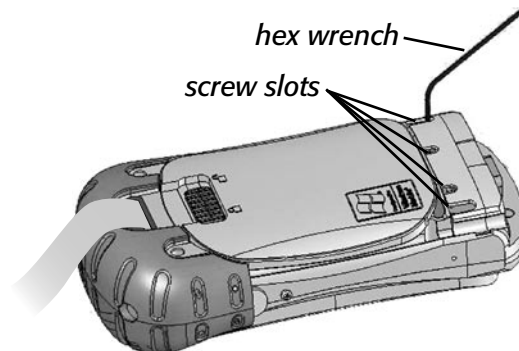

Figure 2: Placement of the hex wrench when first loosening screws
6. Place the short end of the hex wrench onto a screw in one of the four screw slots just below the battery door (see Fig. 2). Slightly loosen the screw.